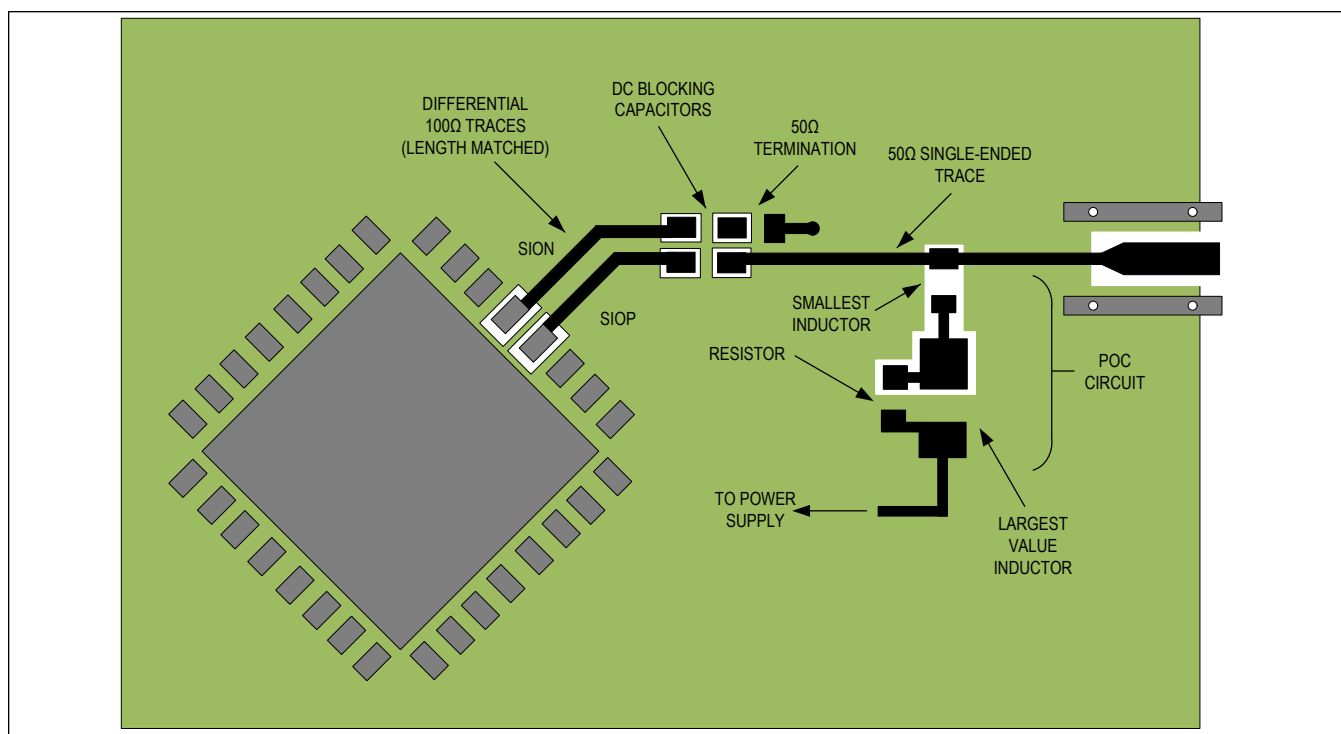

Figure 33. Coax PoC Layout Example
- Using ground cutouts as needed under the first two inductors and resistors. See Figure 33.